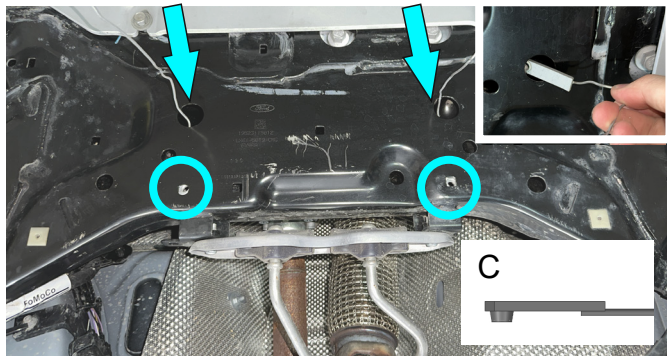

Fig. 3
3. Install M8 insert nuts with wire (item C) as shown in Fig. 3.